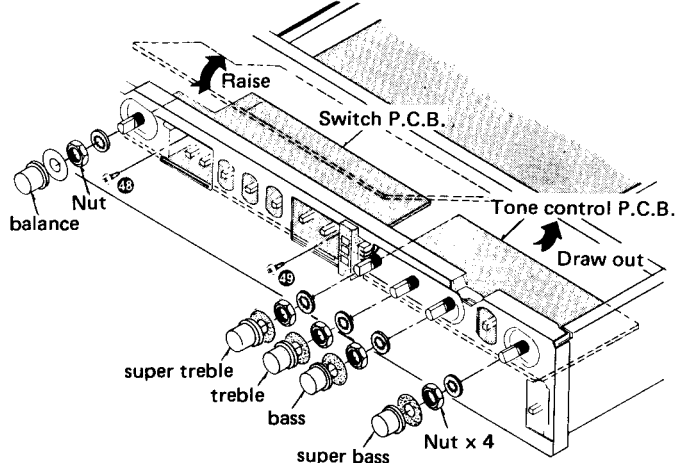

Fig. 8
2. Remove each tone control knob and 4 units of the volume knobs, and raise the switch P.C.B. in the direction of the arrow. [Fig. 8]
3. Remove the balance knob of switch P.C.B. as well as 1 nut and 2 switch setscrews [Fig. 8: ④⑧ , ④⑨] and draw out the tone control P.C.B. in the direction of the arrow.